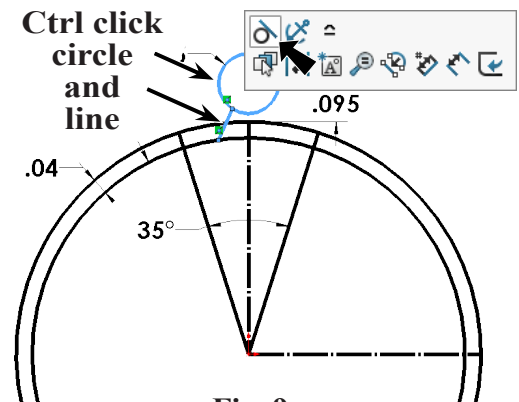

Fig. 9
Step 4. **Ctrl click small circle and line** to select both. Release Ctrl key and click **Make Tangent**  on the context toolbar, **Fig. 9**.